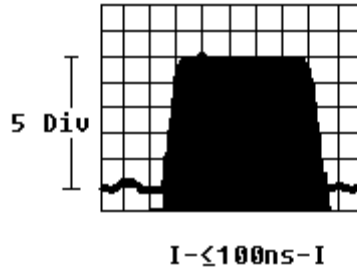

Figure 10. Pulse modulated display.
The next several test require that you adjust the oscilloscope as necessary to obtain a centered 5 division pulse as shown in figure 10.
- (6) Adjust oscilloscope as required for centered five division pulse as in figure 10.